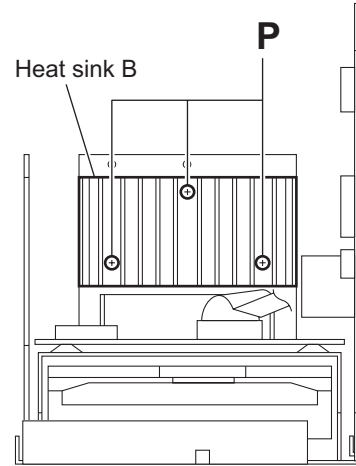

Fig.19
- (3) From the front side of the main body, remove the three screws **P** attaching the heat sink B. (See Fig.19.)